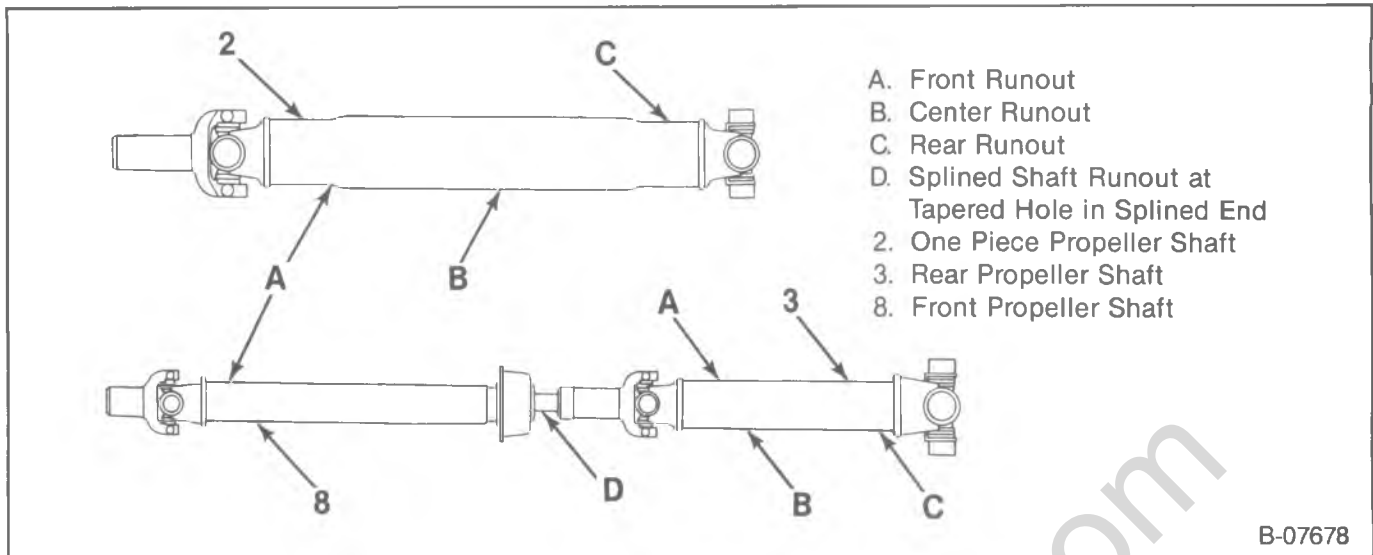

Figure 5—Checking Propeller Shaft Runout
3. Take dial indicator readings at the propeller shaft check points shown in figure 5. For runout specifications, refer to figure 6.
4. With the transmission in neutral, hand rotate the axle pinion flange or the transmission yoke and take the necessary dial indicator readings on the propeller shaft. Record the readings. Models having a two-piece driveline, measure the rear propeller shaft runout (figure 5). Reference mark the position of the rear propeller shaft yoke to the pinion flange, then remove the rear propeller shaft and measure the front propeller
shaft runout on the tube and at the tapered hole on the splined shaft end (figure 5). If the runout exceeds specification, rotate the propeller shaft 180 degrees at the companion flange and install. Check the runout.